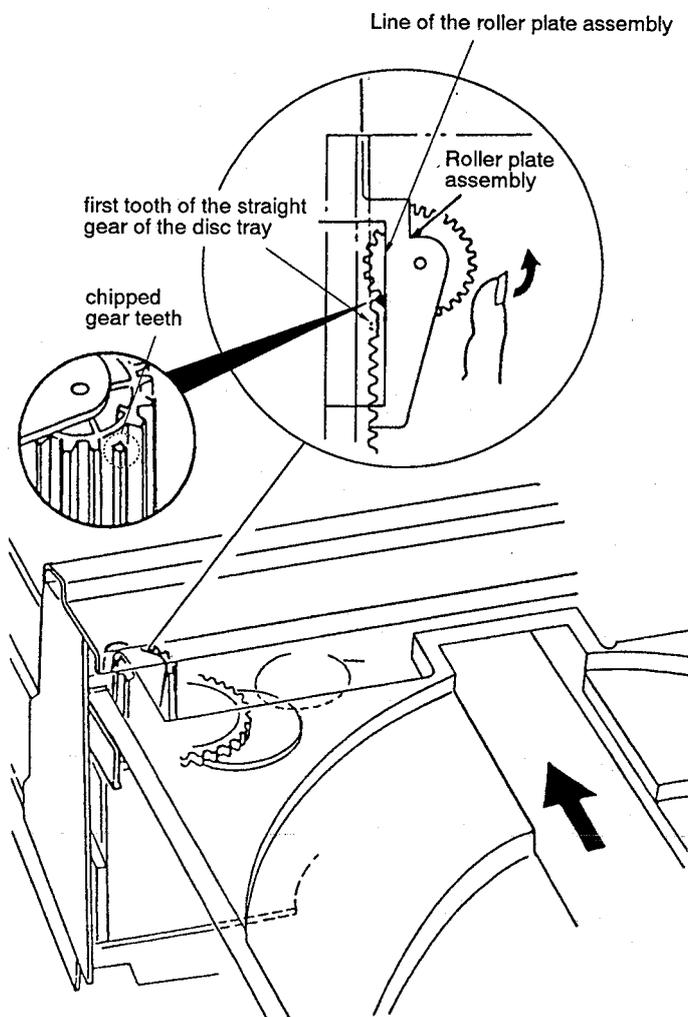

Fig. 19
- ① Adjust the gear positions in the loading mechanism for the disc tray open status, as ㉑ and ㉒ mentioned below.
- ② The top of one of the gear teeth of the roller plate assembly has been chipped off. Finely adjust the position of this chipped tooth by turning the gear counterclockwise so that the tooth comes halfway on the roller plate line. (Fig.19)